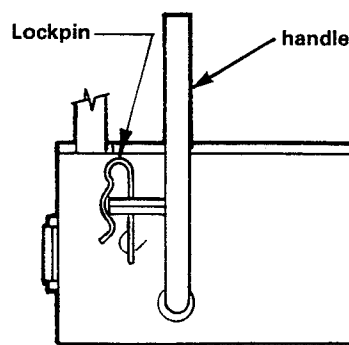
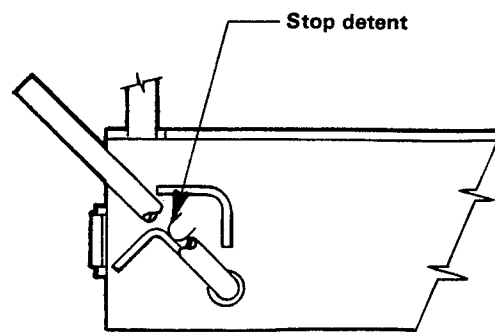

Figure 3 LOCK AND COUPLING POSITION
Figure 4 UNCOUPLING POSITION
4. If the 5th wheel hitch is locked in the closed position (See Figure 3), remove the lock pin and turn the handle counterclockwise (to the left) to the full open position (See Figure 4). Then return the handle to the original closed position. DO NOT replace lock pin until hitch is connected to king pin. The 5th wheel hitch will now latch when king pin is fully in place. (See following steps)
9. Lock pin must be placed through handle and locking tab. (see Figure 3)
5. Remove lock pin and turn handle counterclockwise (to the left) to the uncoupling position. (See Figure 4)